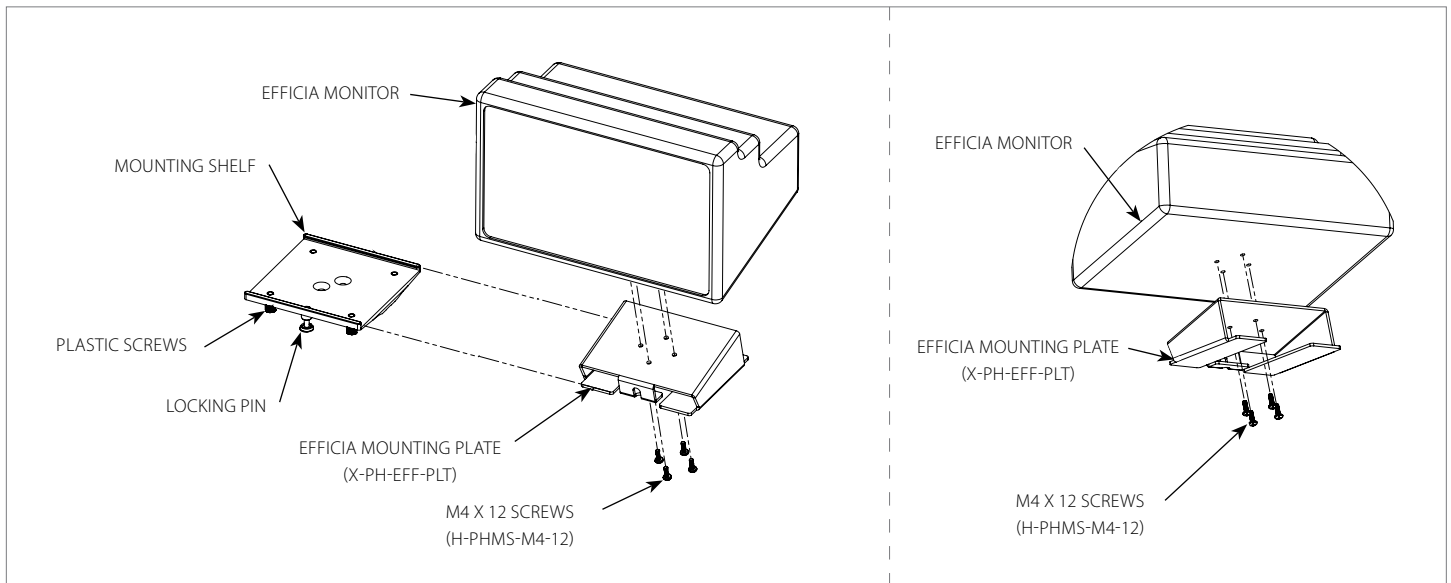

Figure 1
1. First install the *EFFICIA MOUNTING PLATE* to the *EFFICIA MONITOR* with 4x *M4 SCREWS* (Figure 1).